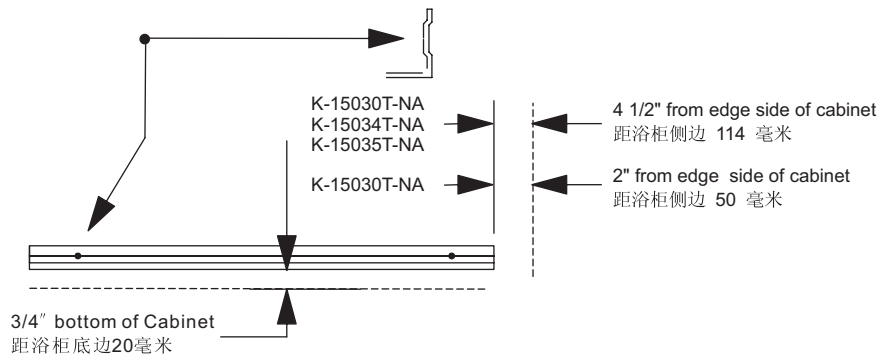

Fig. 3 图3
3) Drill 1/4 hole in wall for mounting bar anchors at locations shown in Fig.3.(If you do not use the anchor, drill a 3/32 pilot hole.) After the holes are drilled, fit the mounting bar onto the wall, refer to Fig. 3 for measurements, and Fig. 5 for information on anchor cinching.
3) 如图3承托条所示位置在墙壁上钻7毫米的孔再上爆炸胶钉(如果您不用爆炸胶钉, 钻2毫米大小的孔。)钻好孔后, 参照图3的尺寸装好浴柜承托条, 并按图5旋紧螺丝。